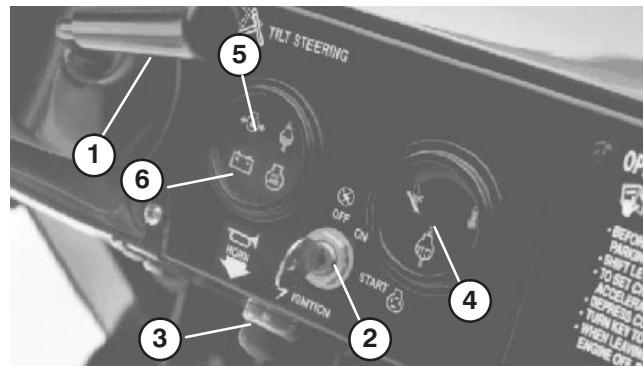

Figure 24
**Tilt Steering Lever** (Fig. 24) – Lever on right side of console allows steering wheel to be adjusted for operator comfort.
**Horn Button** (Fig. 24) – Pressing button activates horn.
**Coolant Temperature Gauge** (Fig. 24) – Registers coolant temperature in engine. Operates only when ignition switch is in On position.
**Engine Low Oil Pressure Light** (Fig. 24) – Light glows if engine oil pressure drops below a safe level while engine is running. If light flickers or remains ON, stop vehicle, turn off engine and check oil level. If oil level was low, but adding oil does not cause light to go out when engine is restarted, turn engine off immediately and contact your local TORO distributor for assistance.
**Ignition Switch** (Fig. 24) – The ignition switch, used to start and stop the engine, has three positions: OFF, RUN and START. Rotate key clockwise — START position — to engage starter motor. Release key when engine starts. The key will move automatically to the ON position. To shut engine off, rotate key counterclockwise to OFF position.
**Charge Indicator** (Fig. 24) – Illuminates when battery is being discharged. If light illuminates during operation, stop vehicle, turn Off engine and check for possible causes, such as alternator belt.